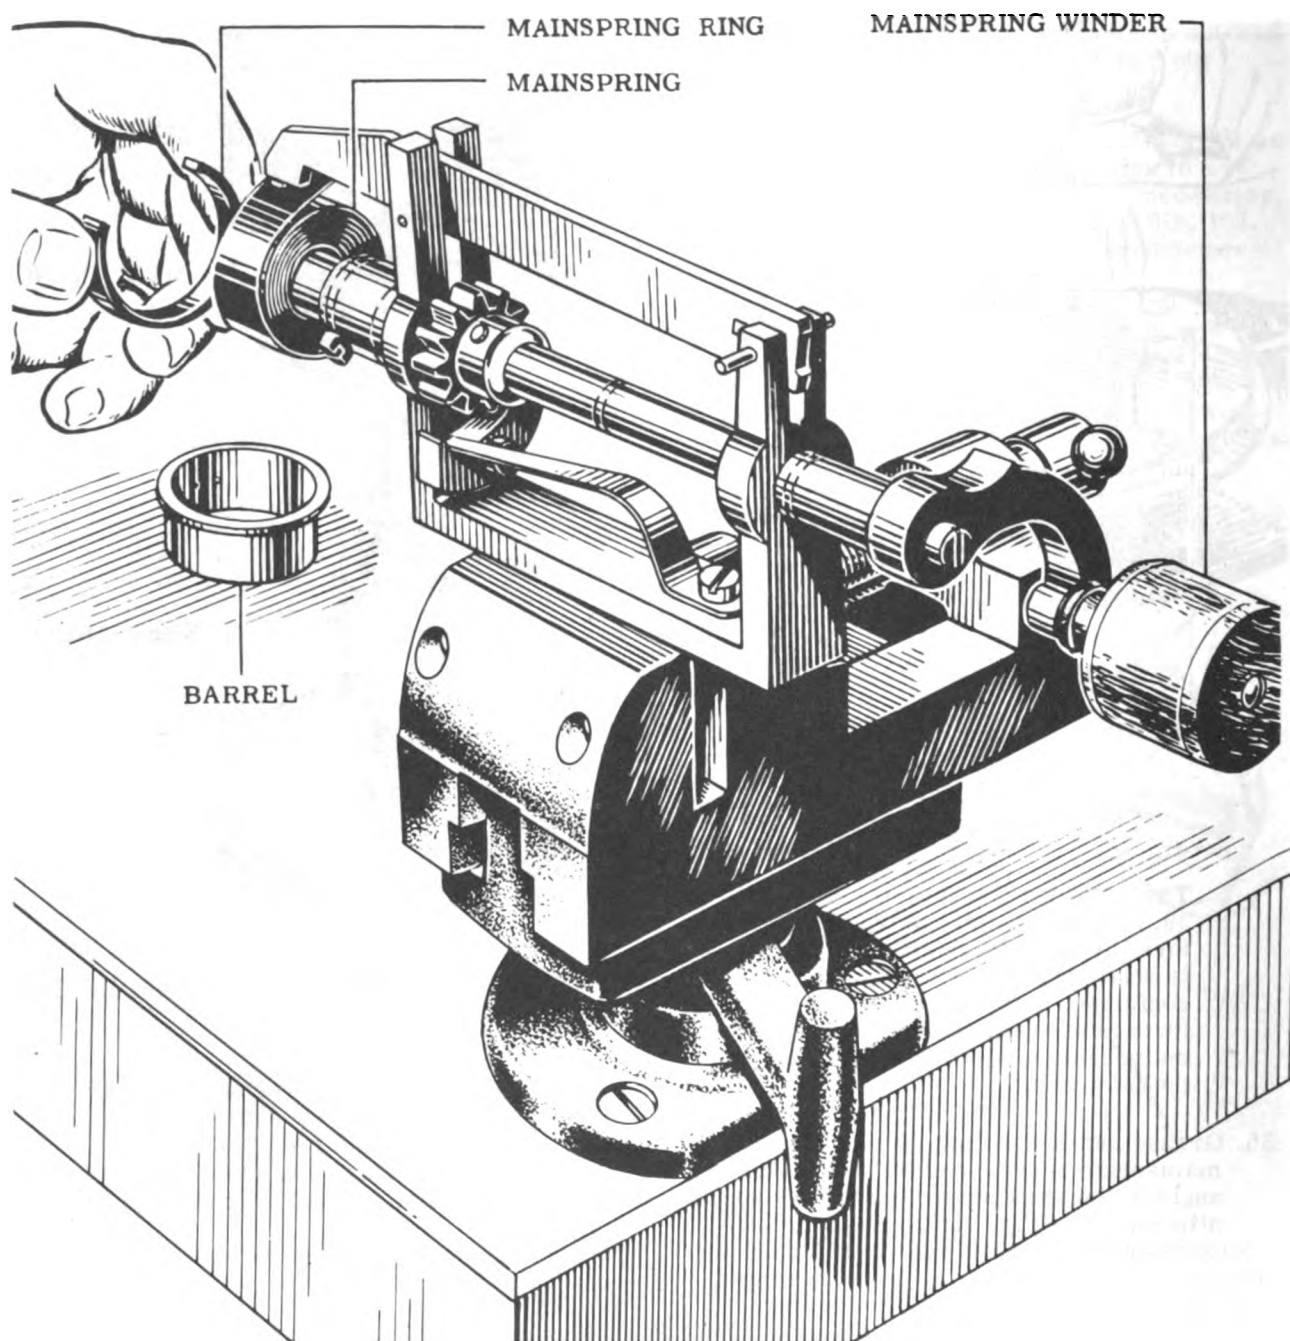

Figure 76
injury unless the spring is tightly held. Use ring to contain spring as it is transferred from mainspring winder to barrel. Use Tools Nos. 56 and 57. See Fig. 76.
36. Install mainspring in barrel, using Tools Nos. 56 and 57, shown in Fig. 76, and applying a thin layer of grease along the length of the spring with syringe, Tool No. 108. Make sure the grease covers the entire flat surface of the spring.